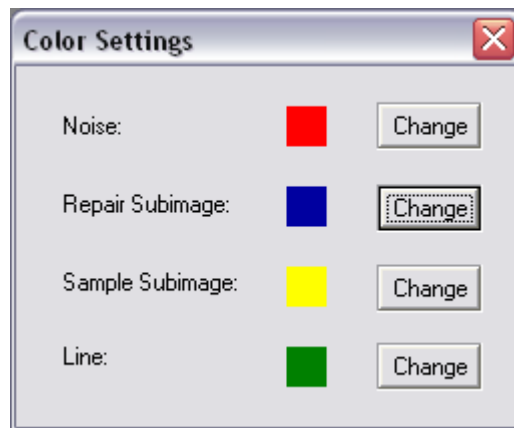

Figure A-6: *Color Settings Window*
- d. The color settings for displaying the noise region, the repair and sample subimages and the line scratches can be changed if these selections are not too visible. This is done by choosing *Options > Color Settings*. The *Color Settings* window will be displayed (Figure A-6).